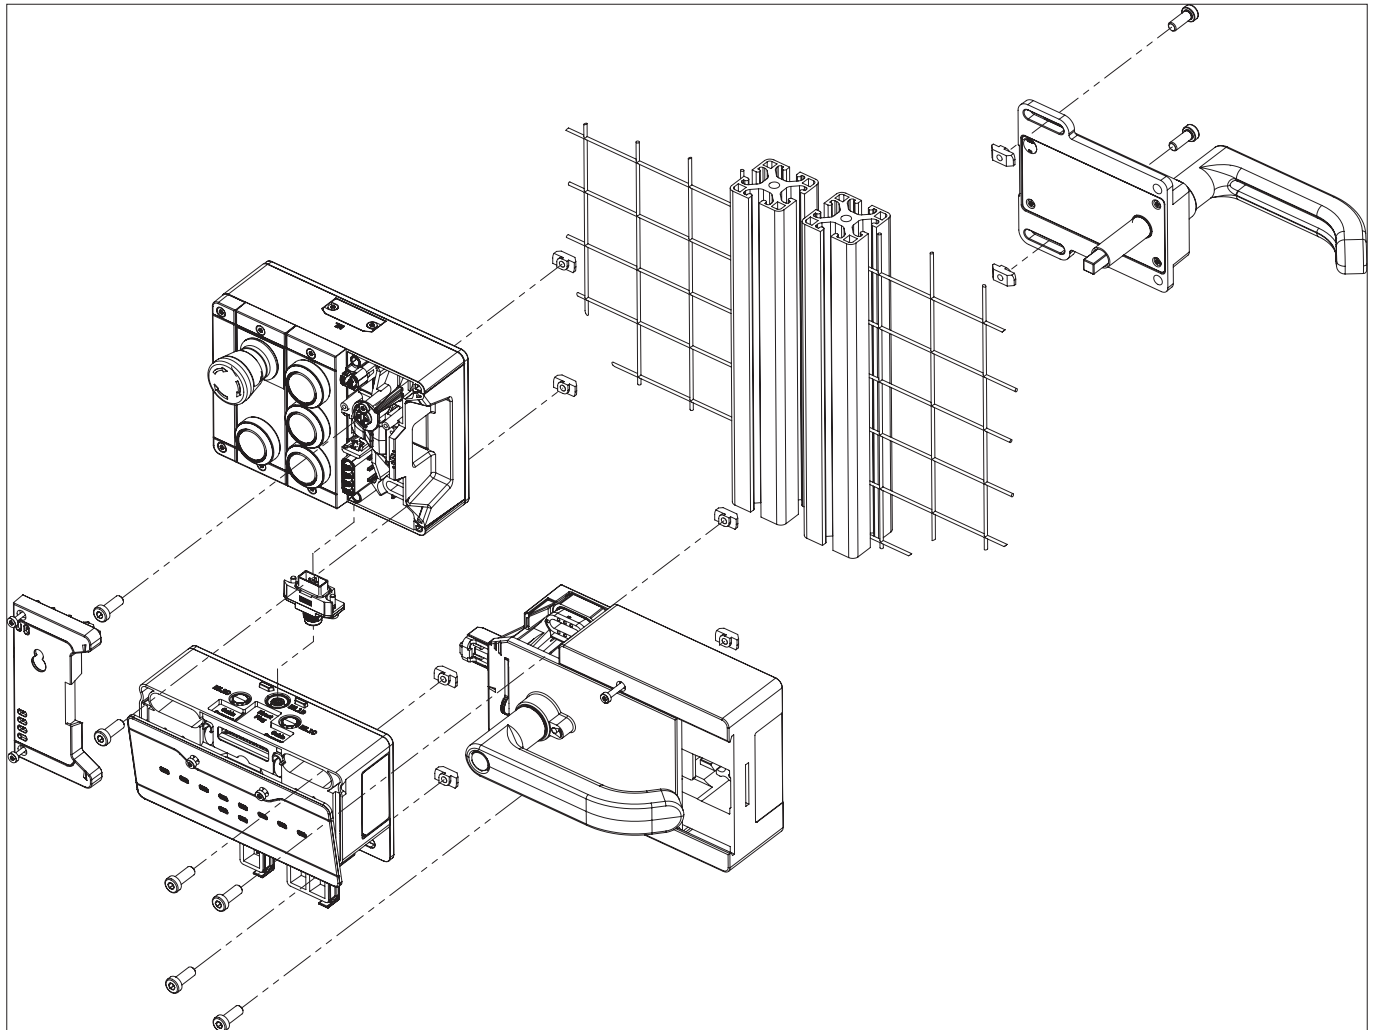
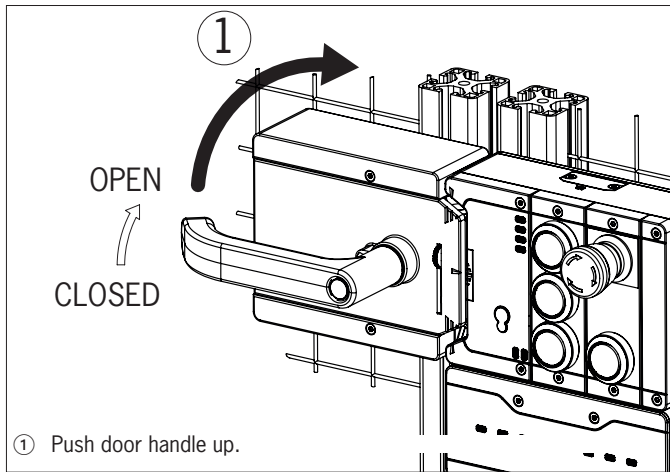
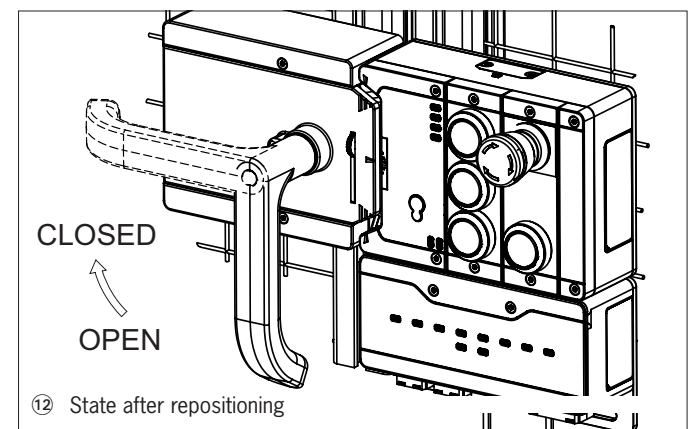

Fig. 9: Installation example for door hinged on the right (general view)
Fig. 11: Changing actuating direction, step ①
Fig. 16: Changing actuating direction, final state
- › Adjust escape release axis at right angles to the handle module. See Fig. 9.
- › During mounting, pay attention to correct alignment. Use the alignment aids on the housing for the interlocking/locking module and on the housing for the handle module (see Fig. 9).
For mounting steps, see Fig. 9 and Fig. 11 to Fig. 16.
- The system is mounted the other way up for doors hinged on the left. In other words, the guard opens by pressing up the door handle (see *Fig. 11*). For this reason the actuating direction of the door handle must be changed (see *Fig. 11* to *Fig. 16*).